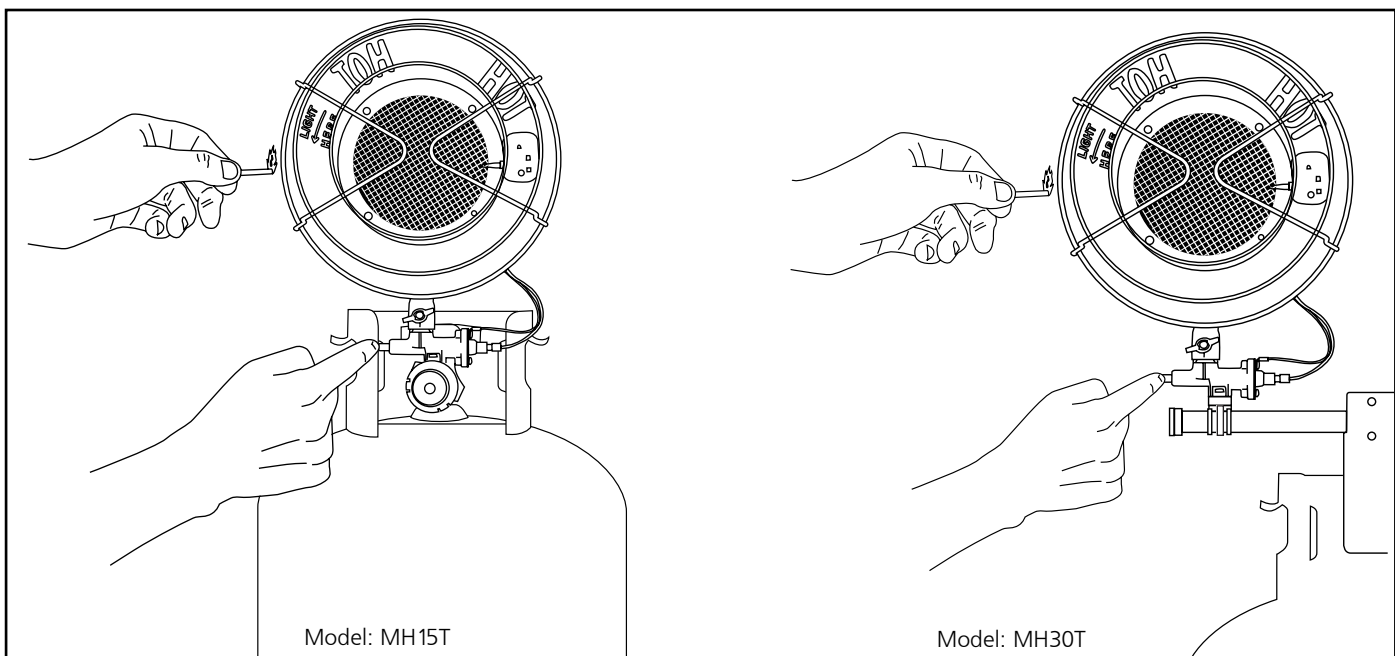

Figure 5.
- D. To light heater, place a lit match across the mesh screen where you see "light here" on the reflector. (See Figure 5) THEN push in valve button on Safety Shutoff Valve. After the heater is lit, continue to hold valve button in for 30 seconds, then release the button slowly. **CAUTION:** DO NOT PUSH IN VALVE BUTTON BEFORE INSERTING LIT MATCH. NEVER STAND IN FRONT OF HEATER WHILE LIGHTING. REPEAT STEP "D" FOR EACH BURNER.